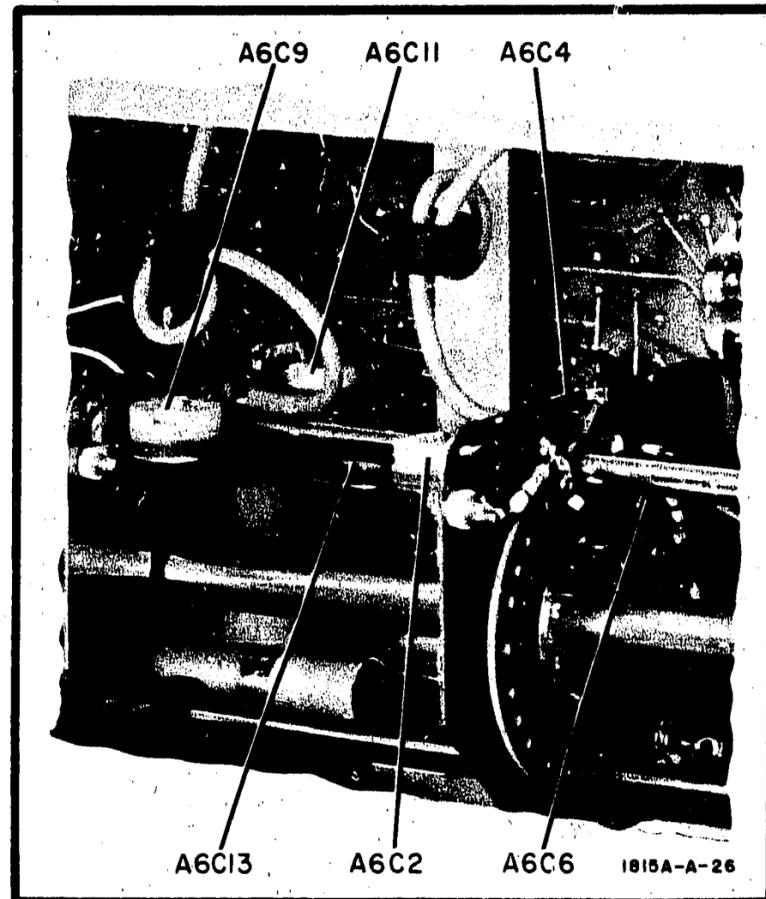

Figure 5-18. Time/Division Capacities
g. Adjust capacitor A6C13 to position the step on the third graticule line. (See Figure 5-18 for location of C13.)